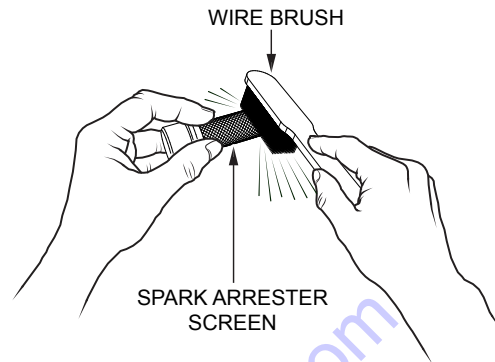

Figure 30. Cleaning The Spark Arrester
4. Carefully remove carbon deposits from the spark arrester screen (Figure 30) with a wire brush.